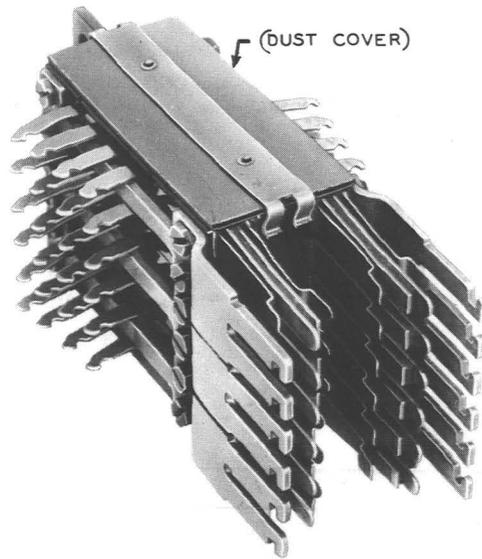

Fig. 6
4.01 The 444-type jacks provide for connecting the cable pairs to the central office circuits through normally closed precious metal contacts. This is essentially the same as standard protectors equipped with metal dummy coils and dummy protector blocks (see Fig. 6).